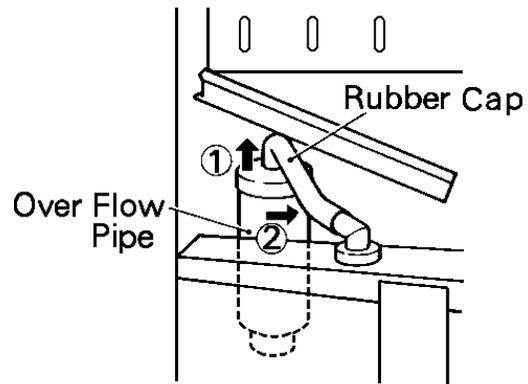

Fig. 3
- 3) Drain the water tank by removing the insulation panel and the rubber cap covering the overflow pipe in the water tank. Remove the overflow pipe by turning it counterclockwise. See Fig. 3.
5) Drain the water tank by removing the insulation panel and the rubber cap covering the overflow pipe in the water tank. Remove the overflow pipe by turning it counterclockwise. See Fig. 3.